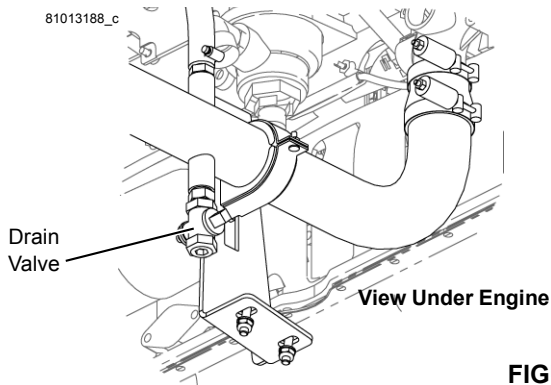

FIGURE 7-14
4. Open drain valve (Figure 7-14) and drain coolant into a suitable container.